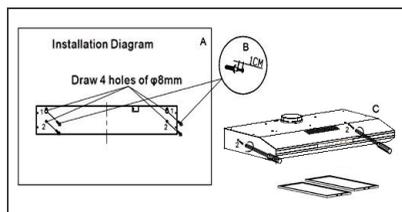

Fig. 8
Wall mounting (Fig. 8)
- ▶ Insert screws to hole 1, leave approximately 1cm gap from wall surface (Fig. 8. B).
- ▶ Mount the appliance onto the wall and do ensure that it is properly engaged with the mounting screws 1 (Fig. 8).